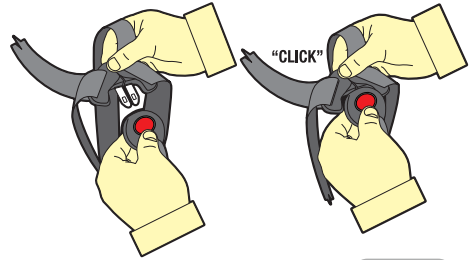

Figure 6
**Step 7:** Engage and disengage the Tongues and Buckles several times until a strong audible “CLICK” is heard when inserting the last tongue (refer Figure 6).